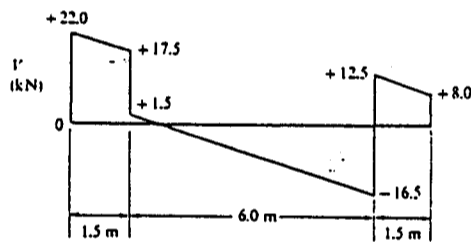

Fig. 2
- The shear-force diagram for a beam is shown in the Fig. 2. Assuming that no couples act as loads on the beam, draw the bending-moment diagram. (Note that the shear force has units of kilonewtons.) (15%)